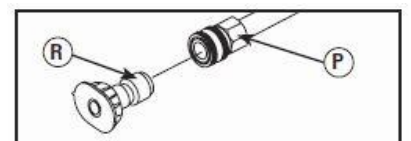

Fig. 11
5. Choose desired quick-connect spray tip (R), pull back on collar of nozzle extension (P), insert spray tip and release collar. Tug on spray tip to make sure it is securely in place. (See Fig. 11)